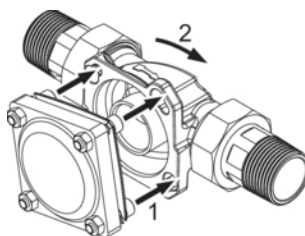
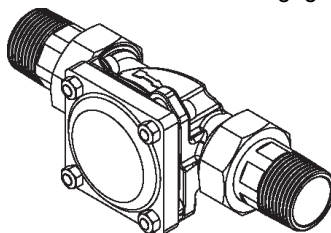

Fig. 4: Attach and engage appliance
Fig. 5: Connection of appliance engaged
1. Insert the heads of the four flange screws through the bayonet holes on the rotary flange fitting (see Figure 4).
2. Turn the device in clockwise direction up to the stop (see Figure 4 and Figure 5).